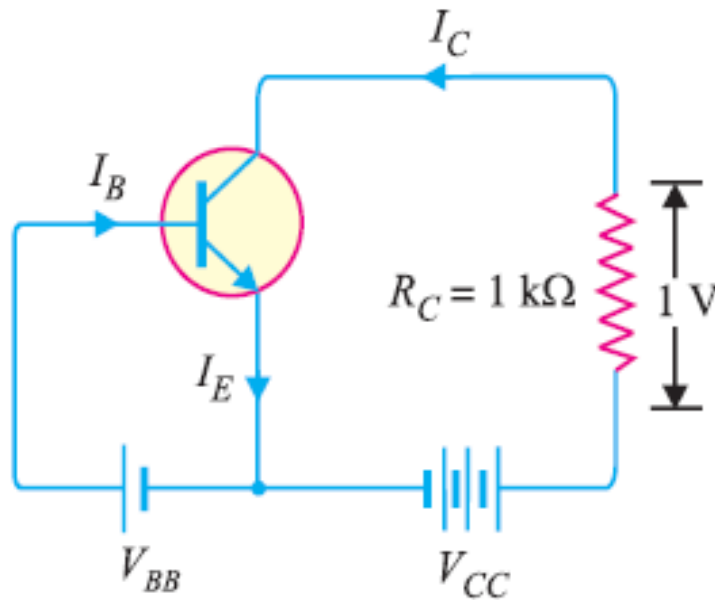

Fig. 5
- Fig. 5 shows the required common emitter connection. The voltage drop across $R_C (= 1 \text{ k}\Omega)$ is 1 volt.